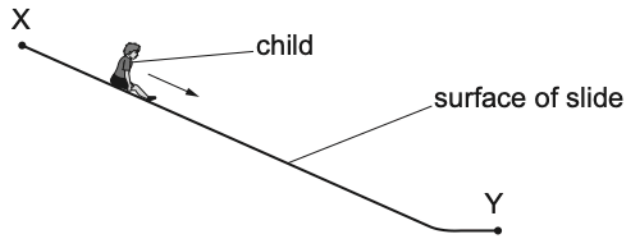

Fig. 4.1 (not to scale)
- 20 A child moves down a long slide, as shown in Fig. 4.1.